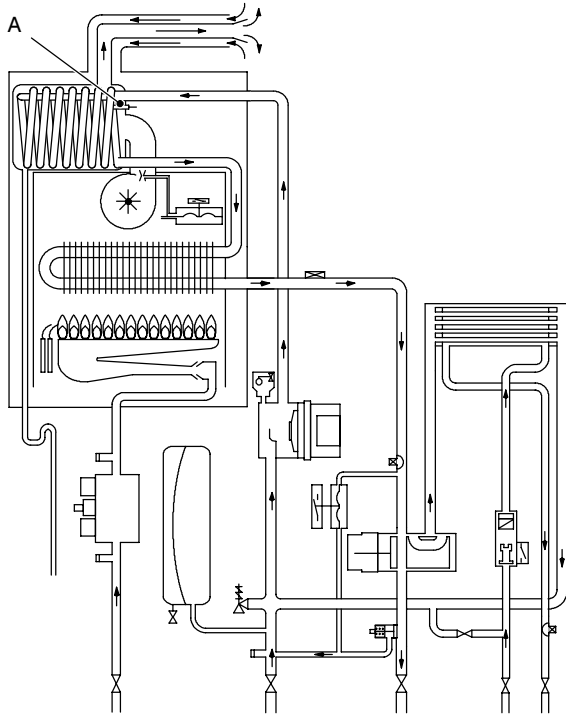
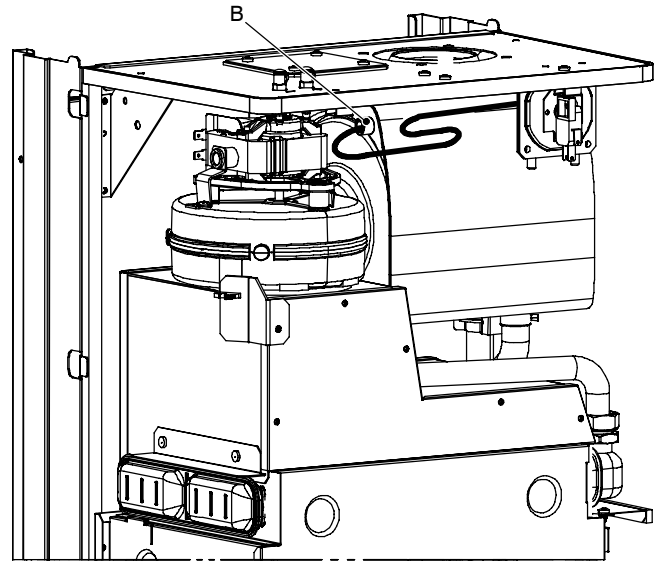

Fig. 90
Fig. 91
The Flue temperature probe NTC A in Fig. 90 and Fig. 91 senses the temperature of the combustion products that flow through the condensing heat exchanger.
- 3 Unscrew and remove the thermostat probe B (Fig. 91) from the condensing heat exchanger.